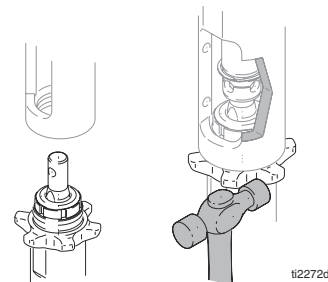

FIG. 10
1. Fig. 10. Screw jam nut to bottom of pump threads. Screw pump completely into manifold. Unscrew pump from manifold until pump outlet aligns with hose. Hand tighten jam nut, then tap 1/8 to 1/4 turn with hammer or torque to 200 ft-lb (270 N·m).